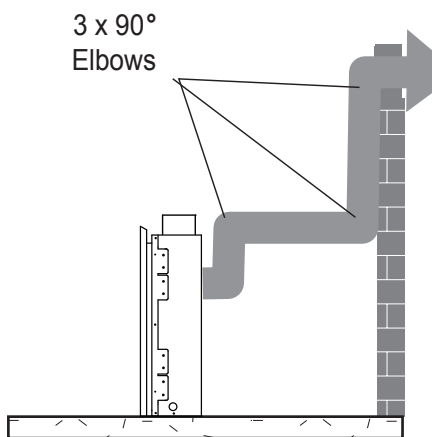

Figure 18 - Maximum Three (3) 90 degree Elbows Per Installation
- The maximum number of 90° elbows per side wall installation is three (3). *See Figure 18.*